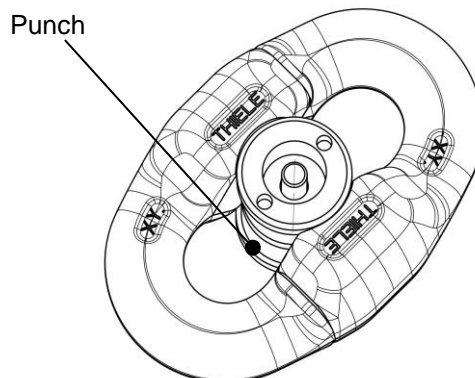

Figure 5: Remove lock
- To disassemble the lock halves, strike the lock on the lower overhang (refer Figure 5 below) using the hammer and punch. Alternate between both sides until the two halves are free.